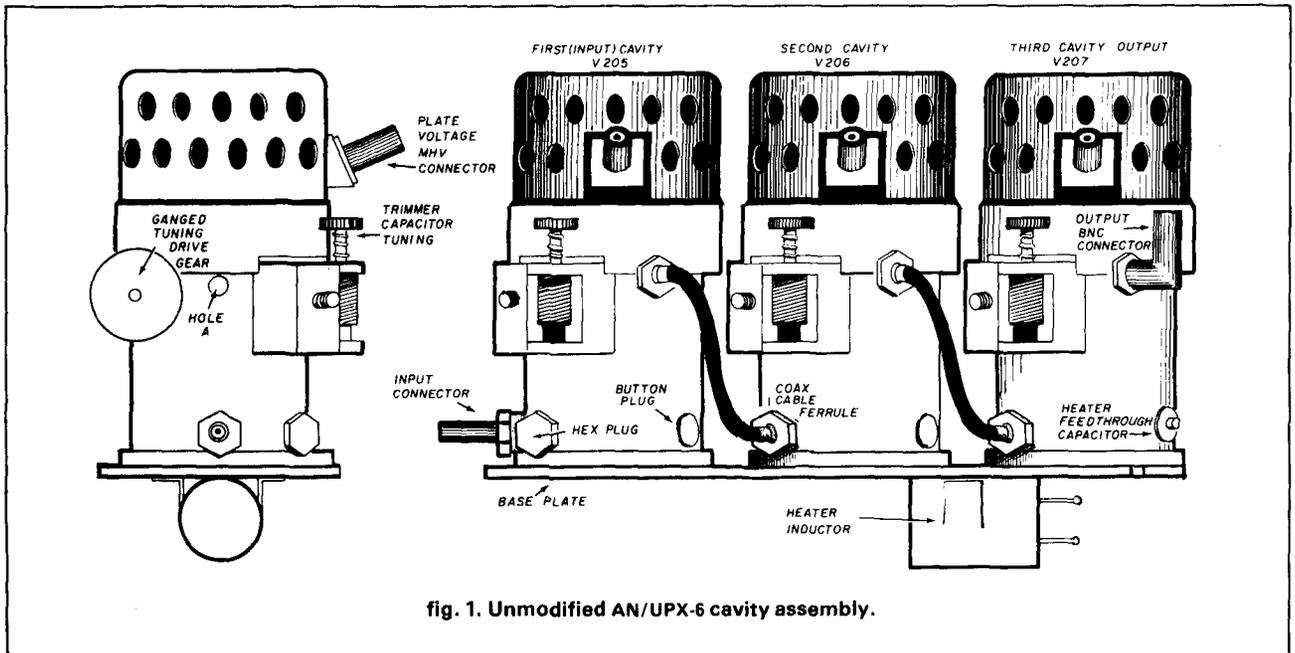

fig. 1. Unmodified AN/UPX-6 cavity assembly.
Each cavity houses a 2C39A, with the three cavities gang-tuned to cover a frequency range of 1080-1130 MHz. I've never seen the complete RT-264 ( )/UPX-6, but the cavity assemblies frequently show up at flea markets. (If any of this equipment is available from surplus dealers, I'm sure that it will be advertised shortly after this article is published.) At any rate, you can identify the complete receiver-transmitter from its nameplate or the cavity assembly alone from the pictorial presentation of **fig. 1**. There may be considerably more hardware attached to the cavities than shown, but only that part of the assembly shown in **fig. 1** is used. Even if the interstage coaxial cables have been cut, don't despair — they can be restored with a minimum of effort provided that the end ferrules are still attached to the cavities.
1. Remove all extraneous parts and material so that only the basic cavity assembly shown in fig. 1 remains. Then refer to fig. 1, as necessary, when performing the following steps.
5. Remove the square access plate on the side of each cavity opposite the view shown in fig. 1. This permits access to the rotors of the ganged tuning capacitors. Save the access plates and the attaching hardware.
**19.** On the first cavity only, locate a point directly above the button-type heater feedthrough capacitor (not visible in **fig. 1**), which is 27/32 inch (21.4 mm) below the bottom of the top flange. At this point, drill and tap another 10-32 (M5) hole.